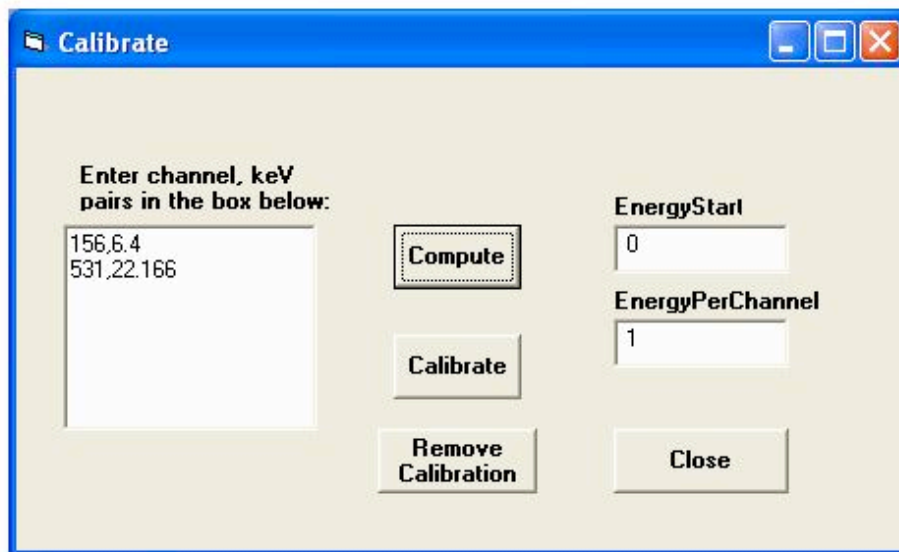

Figure 6. View of calibration control window
10. To calibrate, click “Calibrate” and enter points in the form “channel number, energy in keV” in the window that opens (Figure 6). Then click “Compute,” then “Calibrate,” then “Close.” You may calibrate before, during, or after spectrum collection.